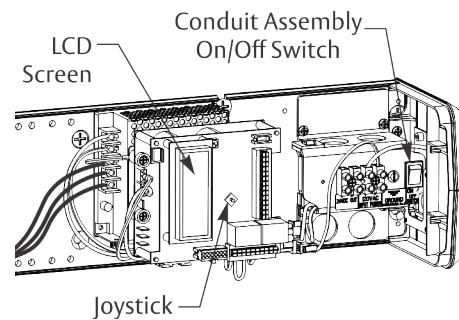

Figure 27 Union Assembly and Spacer not shown
2. Turn On/Off switch to 'OFF' position on conduit assembly. (Figure 27)
- To scroll through menu items, push up or down on joystick. (Figure 27)